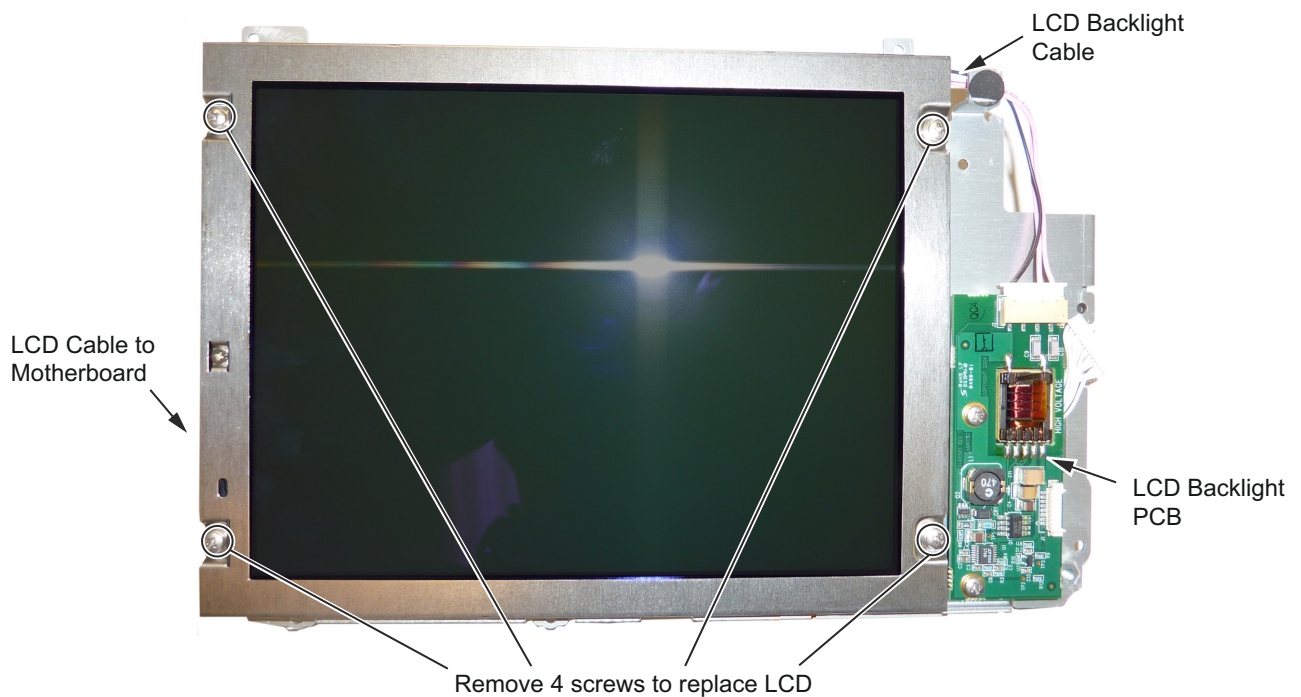

Figure 7-12. Replacing the LCD
5. Use a Phillips screw driver to remove the four screws securing the LCD to the housing (Figure 7-12).